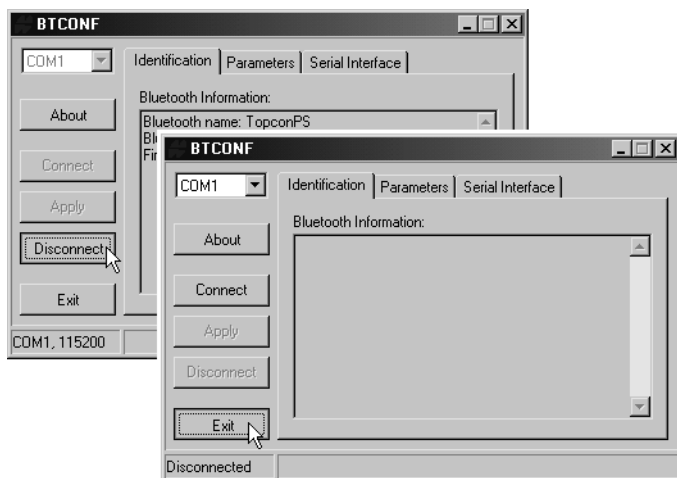

Figure 2-40. Click Disconnect then Exit
10. Click **Disconnect** then **Exit** (Figure 2-40) to quit BTCONF.